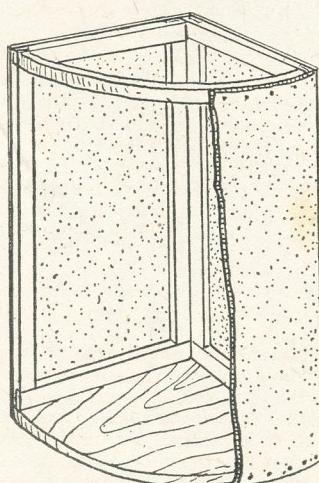

Fig. 2—Constructional details
Details of the sides and bottom are given in Fig. 1 and diagram. Fig. 2 shows the general build up of the article. First make up a couple of light wood frames to dimensions given in Fig 1 (A). These are constructed from $\frac{1}{2}$ in. by 1in. wood strips and joined together at the corners with the simple halved joint, shown at (C), which every reader is well acquainted with, we think.
The sides and curved front of the basket are covered with cardboard, as in the constructional detail in Fig. 2. You can, of course, buy a sheet or two of cardboard for this part of the work, or if you feel like being economical, use the cardboard from grocers' containers,
The board for this (shown in Fig. 2) can be $\frac{1}{2}$ in. thick or made from panel board with a 1in. square edge, rounded at the corners. Use panel fine pins for fixing. The top could be linoleum covered to save damage from water, and if possible fix it at window level. It can, space permitting, extend out about 3ins. from the wall or alcove.